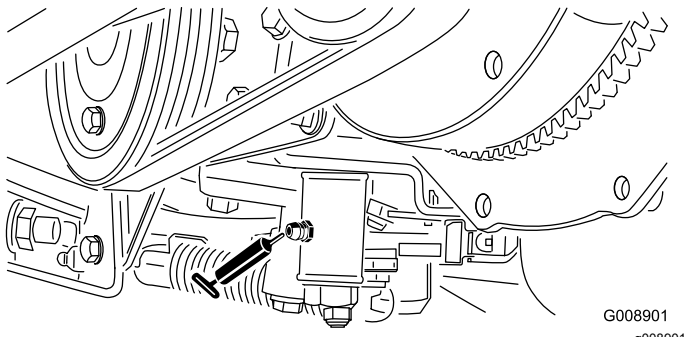

Figure 67
2. Jack the back of the machine under the rear wheel motor. (Figure 67).
- Neutral adjust mechanism (Figure 67)